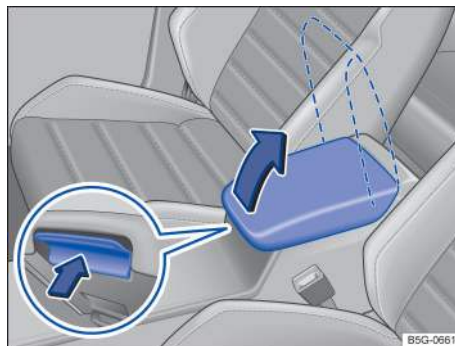

Fig. 131 In the front center armrest: Storage compartment.
- **To open:** Push the release button (magnified view) and lift the center armrest up as far as it will go in the direction of the large arrow → fig. 131.